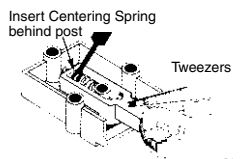

FIG. 4
3. Place coupler and Draft Gear Box together. While holding (optional Kadee® #1020 Tweezers), install Centering Spring into spring slot (behind post except the #806 Coupler the Centering Spring is placed in front of post) using a Kadee® #241 Spring Pic or small screwdriver wedged between the last two coils of the spring, see Fig. 4.